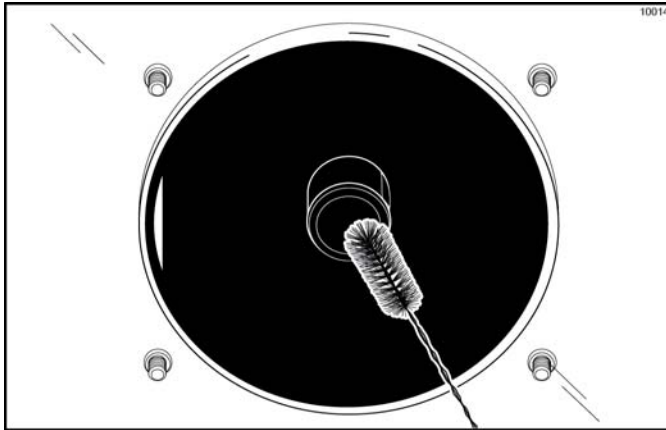

Figure 6-125
3. Return to the freezer with a small amount of cleaning solution. Using the black brush, clean the rear shell bearings at the back of the freezing cylinders. (See Figure 6-125.)